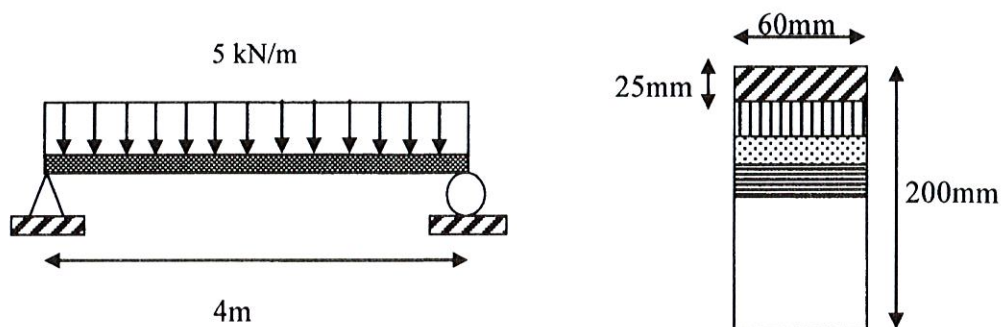

Figure B3 (Rajah B3)
- b) A simply supported beam as shown in Figure B3 has a rectangular cross section.